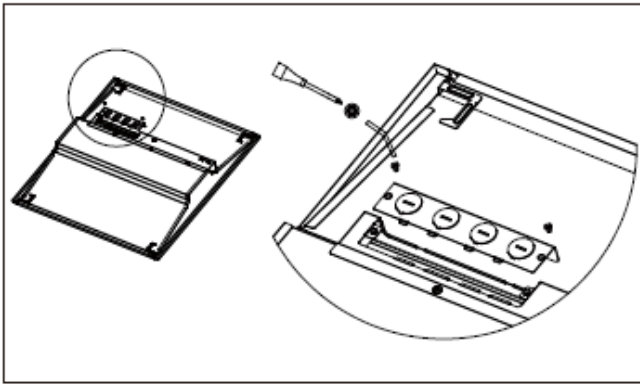

Figure 1.
3. On the back side of fixture, locate junction box cover and slide to remove it (see Fig. 1).